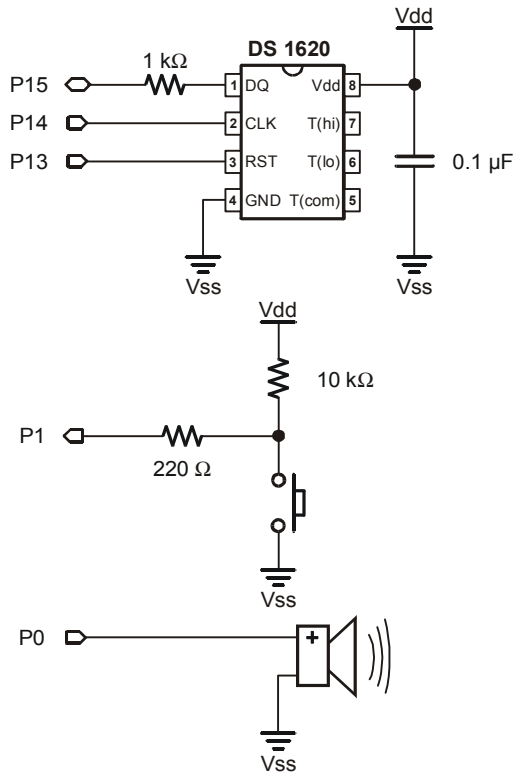
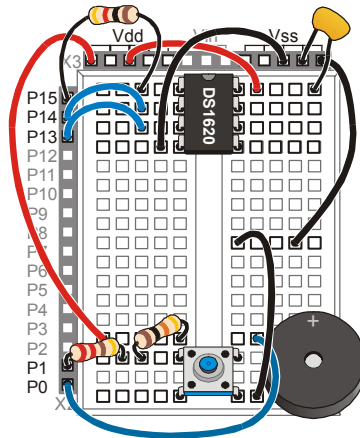

Figure 2-1
Figure 2-2
- √ Build the circuit as shown in the schematic (Figure 2-1) and wiring diagram (Figure 2-2).